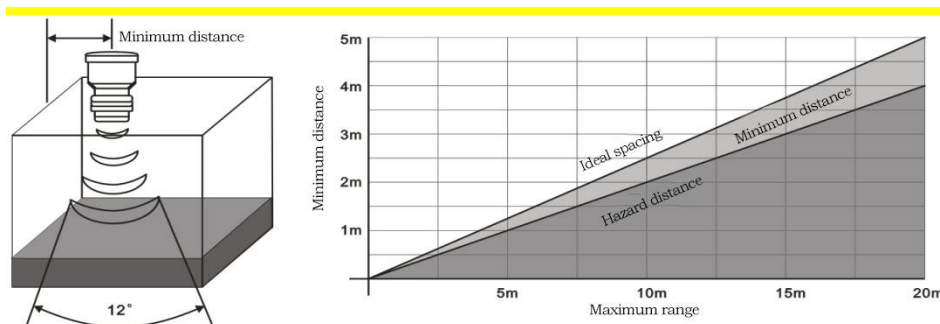

Figure 4
7.1.4 The probe shall be installed to avoid that the emitted acoustic channel and the vessel wall remain in the ideal area as shown in Figure 4. For the range shown in Figure 4 and the probe installation distance from the vessel wall, if the installation distance is less than the distance specified in the ideal area, the probe should be installed within the "minimum spacing" area. If the mounting distance from the side wall remains below the "minimum spacing" line, the transmitter may not properly measure the position. See figure four